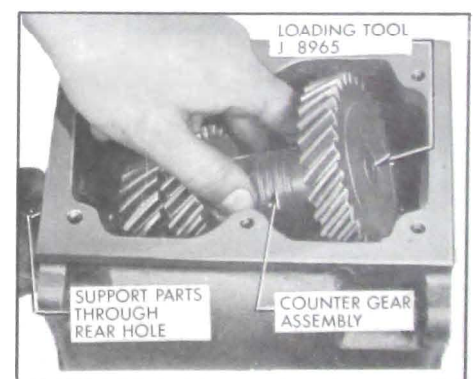

Figure 4-31—Installing Counter Gear
3. With Bearing Loading Tool J-8965 in place, and with all counter gear assembly parts in place except front thrust washer, lower counter gear vertically through top of transmission case with rear (small section of counter gear) down. Then position counter gear in a horizontal position to allow front of counter gear to pass projections in transmission case. See Figure 4-31.